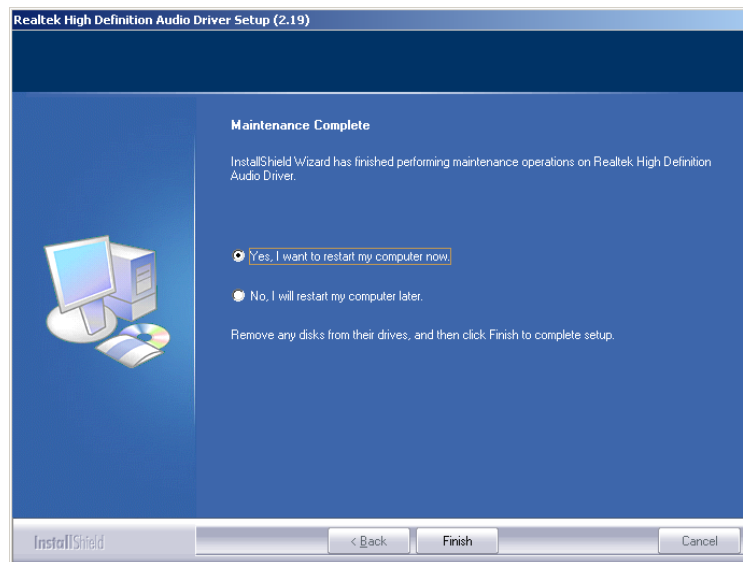

Figure 7-29: Restart the Computer
Step 9: After the driver installation process is complete, a confirmation screen appears (Figure 7-29).